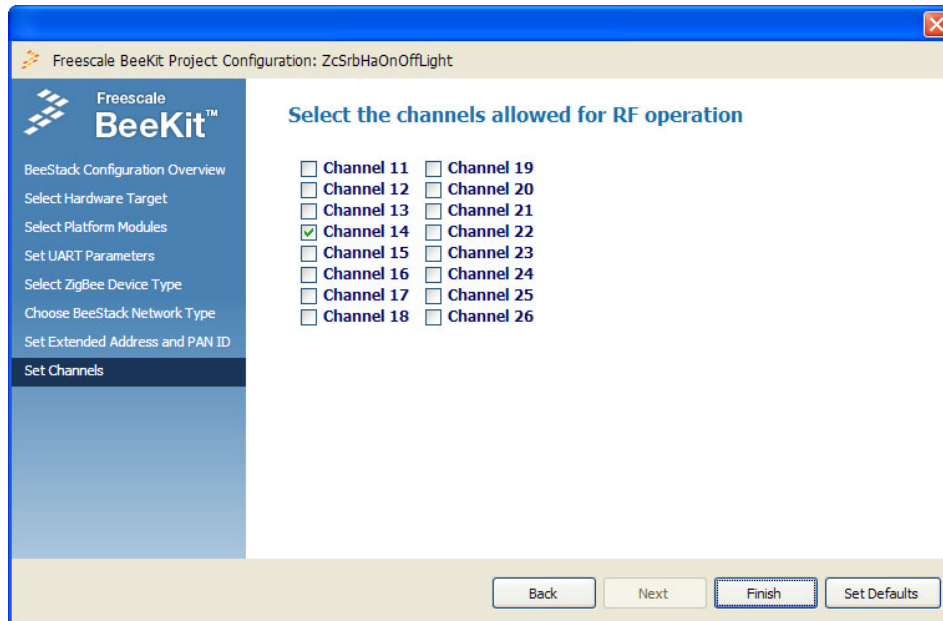

Figure 3-10. Channels Page
12. Click Next. The Channels page appears as shown in Figure 3-10.